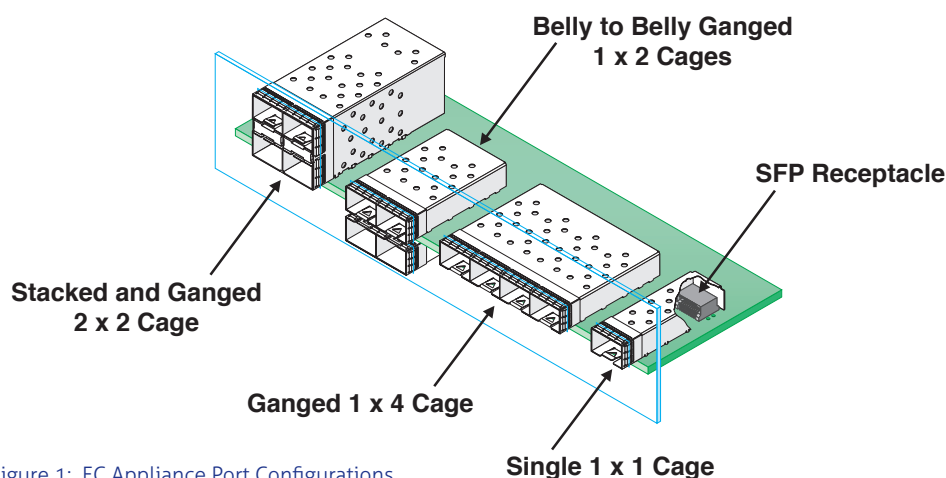

Figure 1: FC Appliance Port Configurations
Fibre Channel connectivity has been and continues to be as easy and straight-forward as plugging a lamp cord into a wall socket. In the case of Fibre Channel (FC), the socket is a Small Form-factor Pluggable (SFP) receptacle. The receptacle consists of the connector which is covered by an Electro-Magnetic Interference (EMI) shield or cage as it is commonly known. The original single cage configuration was extended to ganged or side-by-side configurations and then to stacked and ganged configurations. These ganged configurations provide greater density and flexibility for configuring the FC sockets. A typical FC appliance could be configured with any of the examples shown in Figure 1. Other sizes of ganged and stacked and ganged cages are available.